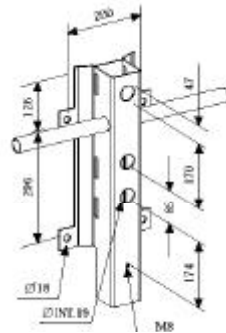

Figure 23
3. Remove post fixing clamp from packaging and screw onto post or metallic support. Mounting position. (figure 23)